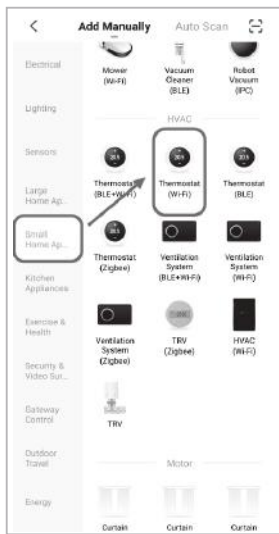

Fig. 4
- When the thermostat is off, press and hold the “∇” until the thermostat screen flashes quickly and displays the “📶” icon, and then operate according to the following figures (Fig. 4-Fig. 8)